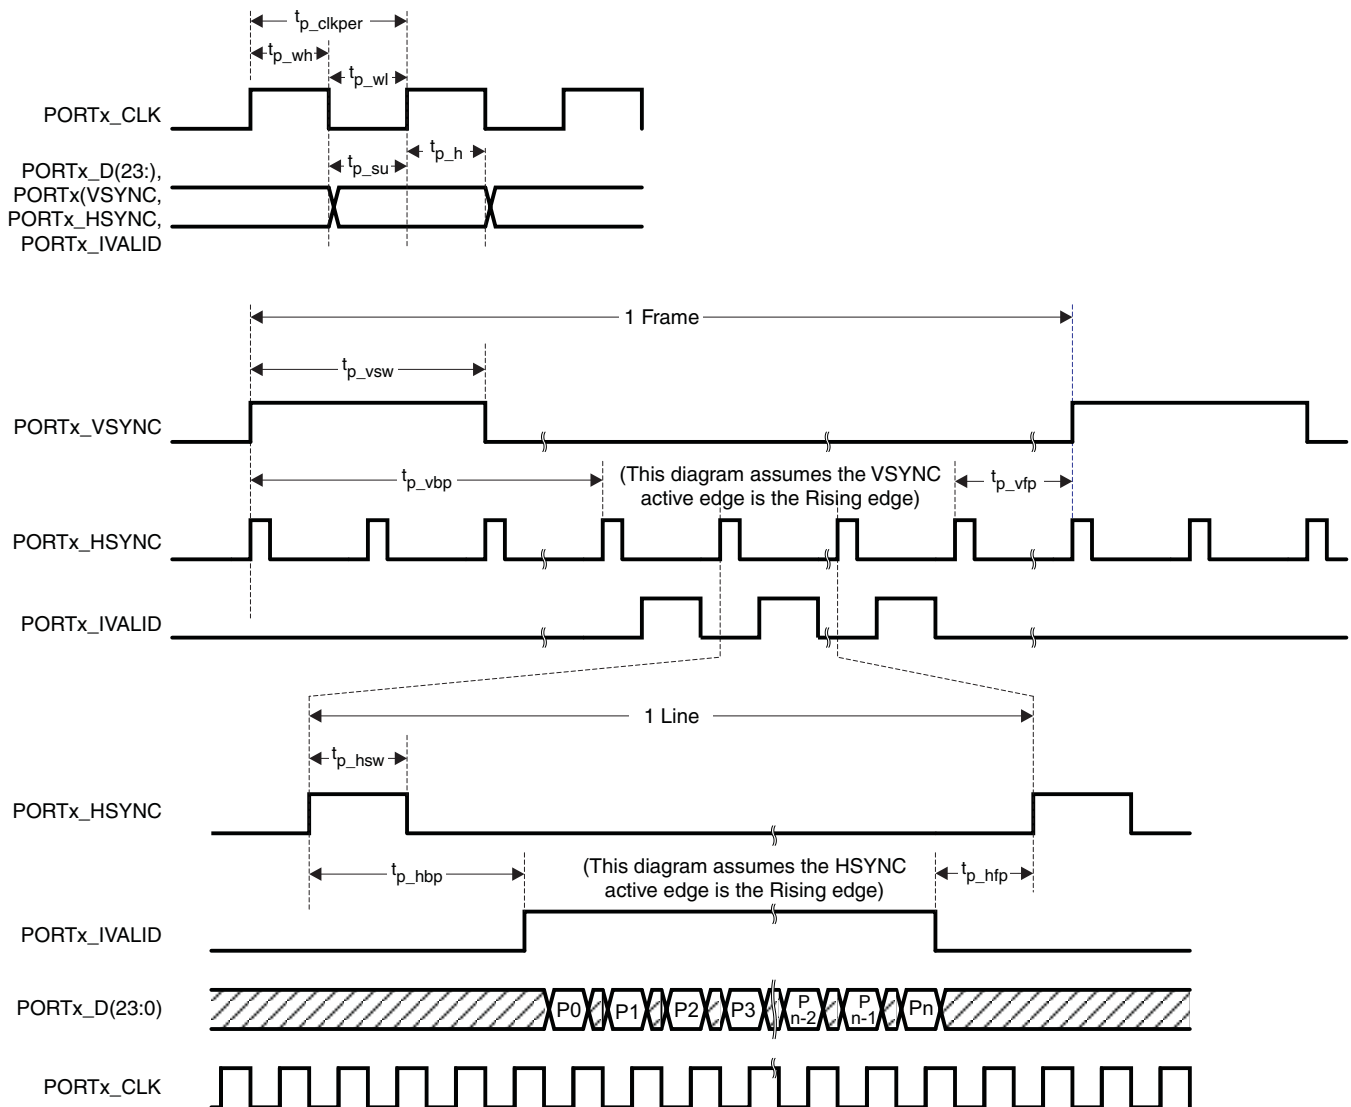

Figure 3. Input Port Interface
- (1) PCLK may be inverted from that shown in Figure 3. In that case the same specifications in the table are valid except now referenced to the falling edge of the clock. If the falling edge of PCLK is to be used, an USB or SPI command is needed to tell the DLPC200 to use the falling edge of PCLK.